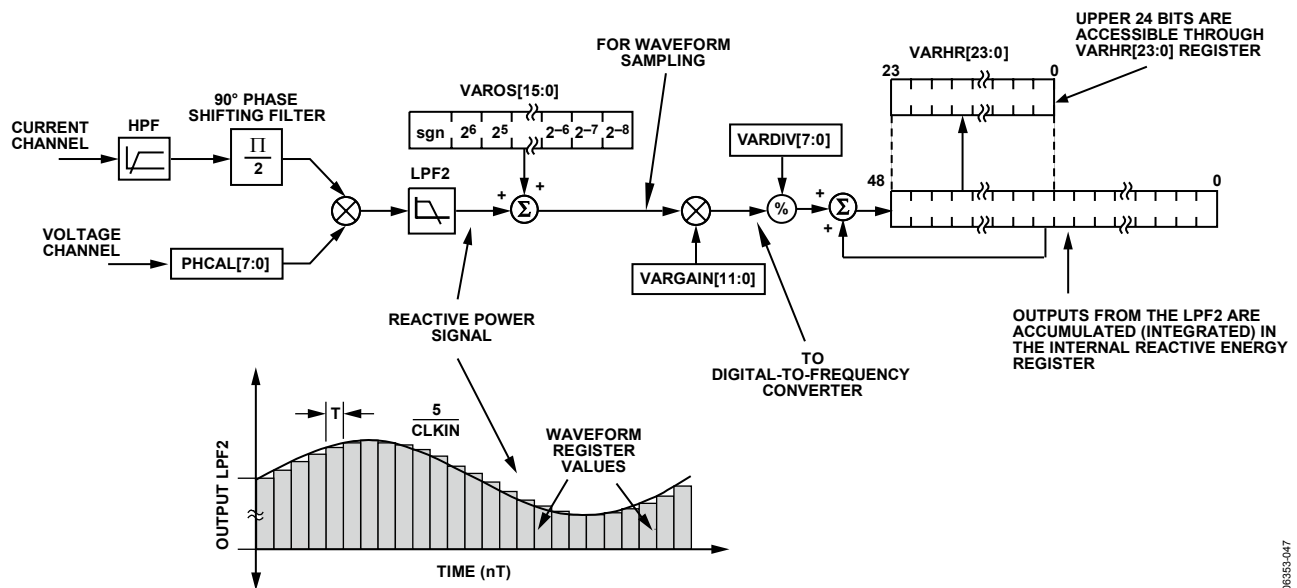

Figure 71. Reactive Energy Calculation
The instantaneous reactive power signal $q(t)$ is generated by multiplying the voltage and current channels. In this case, the phase of the current channel is shifted by 90°. The dc component of the instantaneous reactive power signal is then extracted by a low-pass filter to obtain the reactive power information (see Figure 71).
Figure 71 shows the signal processing chain for the ADE7569/ADE7169 reactive power calculation. As explained in the Reactive Power Calculation for the ADE7569/ADE7169 section, the reactive power is calculated by applying a low-pass filter to the instantaneous reactive power signal. Note that, when reading the waveform samples from the output of LPF2, the gain of the reactive energy can be adjusted by using the multiplier and by writing a twos complement, 12-bit word to the VAR gain register (VARGAIN[11:0]). Equation 25 shows how the gain adjustment is related to the contents of the watt gain register.
The ADE7569/ADE7169 also incorporate a reactive power offset register (VAROS[15:0]). This is a signed, twos complement, 16-bit register that can be used to remove offsets in the reactive power calculation (see Figure 71). An offset can exist in the reactive power calculation due to crosstalk between channels on the PCB or in the IC itself. The offset calibration allows the contents of the reactive power register to be maintained at 0 when no power is being consumed.
The discrete time sample period (T) for the accumulation register in the ADE7569/ADE7169 is 1.22 μs (5/MCLK). As well as calculating the energy, this integration removes any sinusoidal components that may be in the active power signal. Figure 71 shows this discrete time integration or accumulation. The reactive power signal in the waveform register is continuously added to the internal reactive energy register.
As shown in Figure 71, the reactive power signal is accumulated in an internal 49-bit signed register. The reactive power signal can be read from the waveform register by setting the WAVMODE register (0x0D) and setting the WFSM bit in the Interrupt Enable 3 SFR (MIRQENH, 0xDB). Like the current and voltage channel waveform sampling modes, the waveform data is available at sample rates of 25.6 kSPS, 12.8 kSPS, 6.4 kSPS, or 3.2 kSPS.